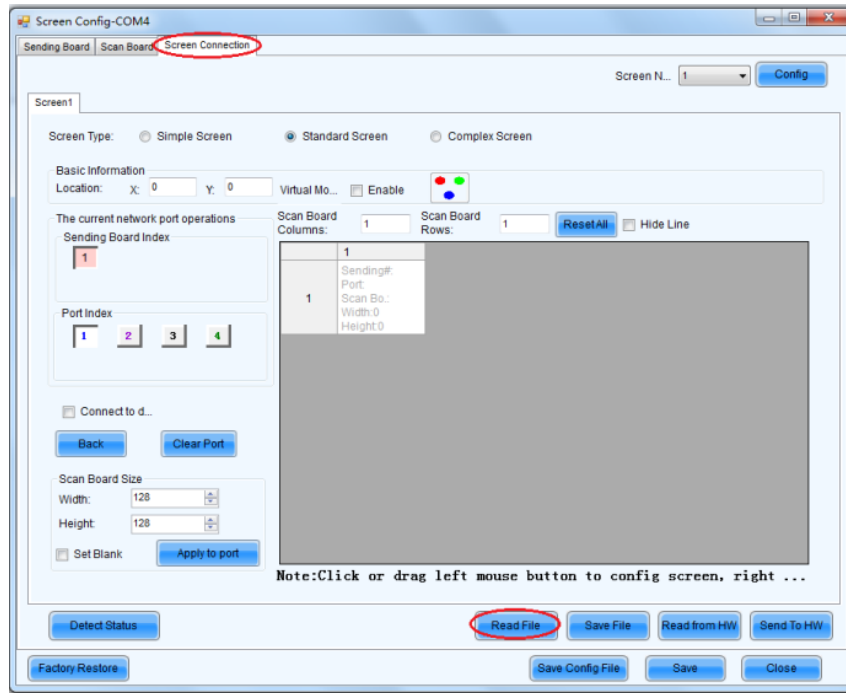

Figure 3-9 Screen Connection 1
- 1) Click **Read File** to load the file xxxx.scr stored in the optical disk, as shown in Figure 3-9.